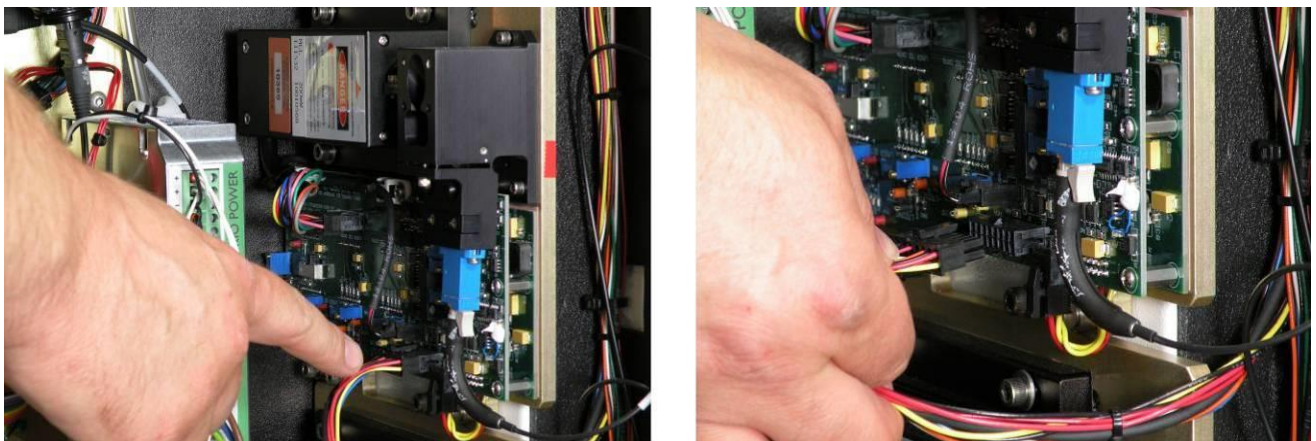

Figure 127. Remove electrical connection
2. Remove the electrical connection (Figure 127).